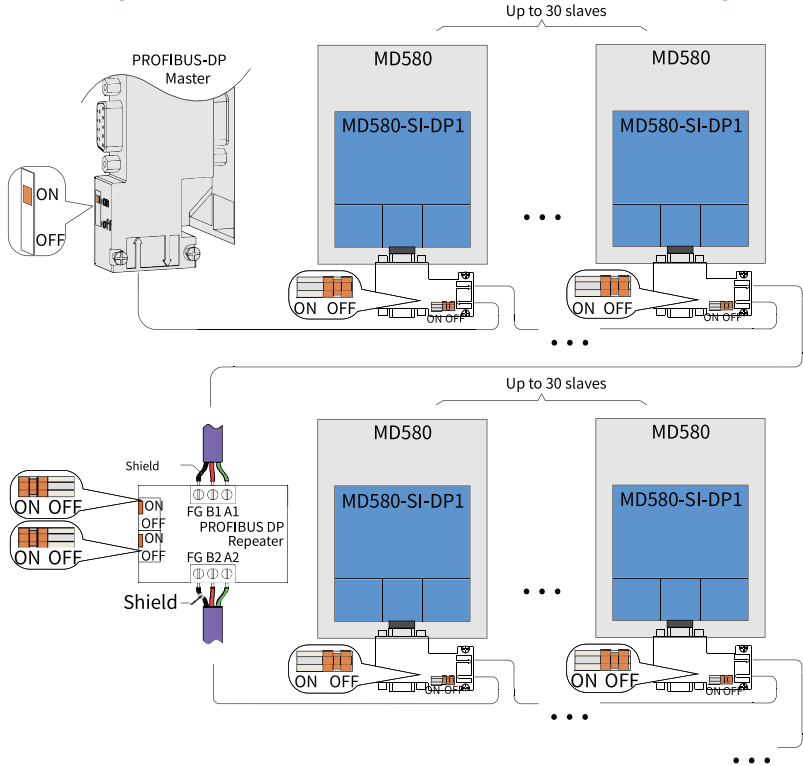

Figure 2-7 Multi-drive system connection with repeaters
- For multi-drive system connection with repeaters, connect termination resistors to the first and last AC drives, and connect the termination resistor of the repeater, as shown in "Figure 2-7 Multi-drive system connection with repeaters" on page 22.